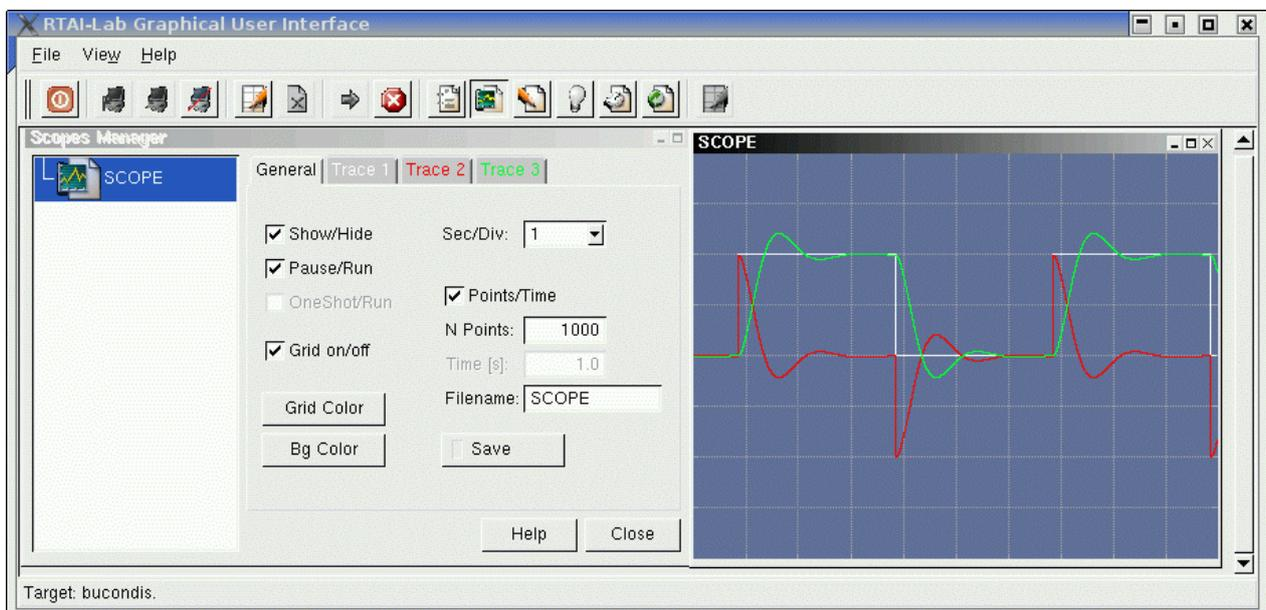

Figure 15: `xrtailab` Scopes Manager and scope displaying real-time plots of the block diagram shown in Fig. 14a
- In `xrtailab`: connect to target (alt-c), open the scope manager and show the scope. In the Scopes Manager you can click on Trace tabs to adjust each trace's color (Fig. 15).